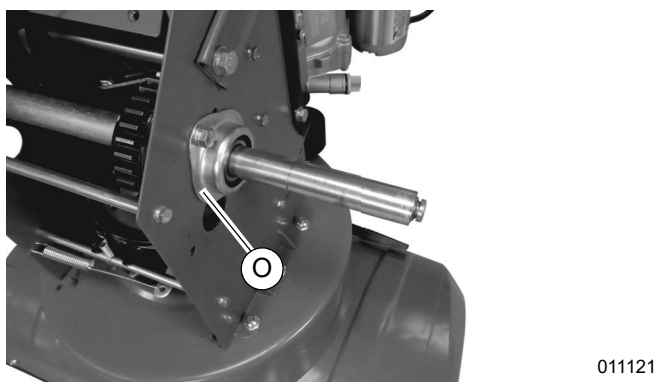

Figure 4-34. Right Side Wheel Bearing Assembly
7. Install rear strut (N).
8. See Figure 4-34. Install right side wheel bearing assembly (O).